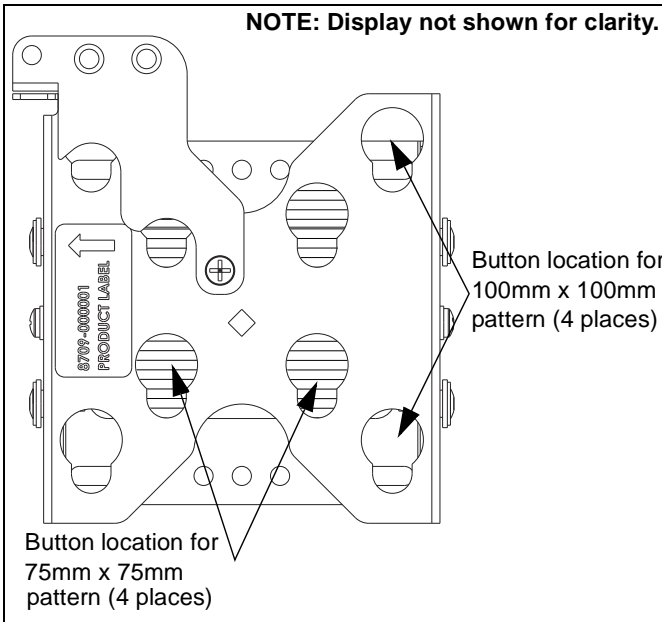

Figure 8
**NOTE:** Example shows mounting display in the 100mm x 100mm pattern. FTR1U/FTR100 assembly (A) will also accommodate a 75mm x 75mm pattern. (See Figure 8)